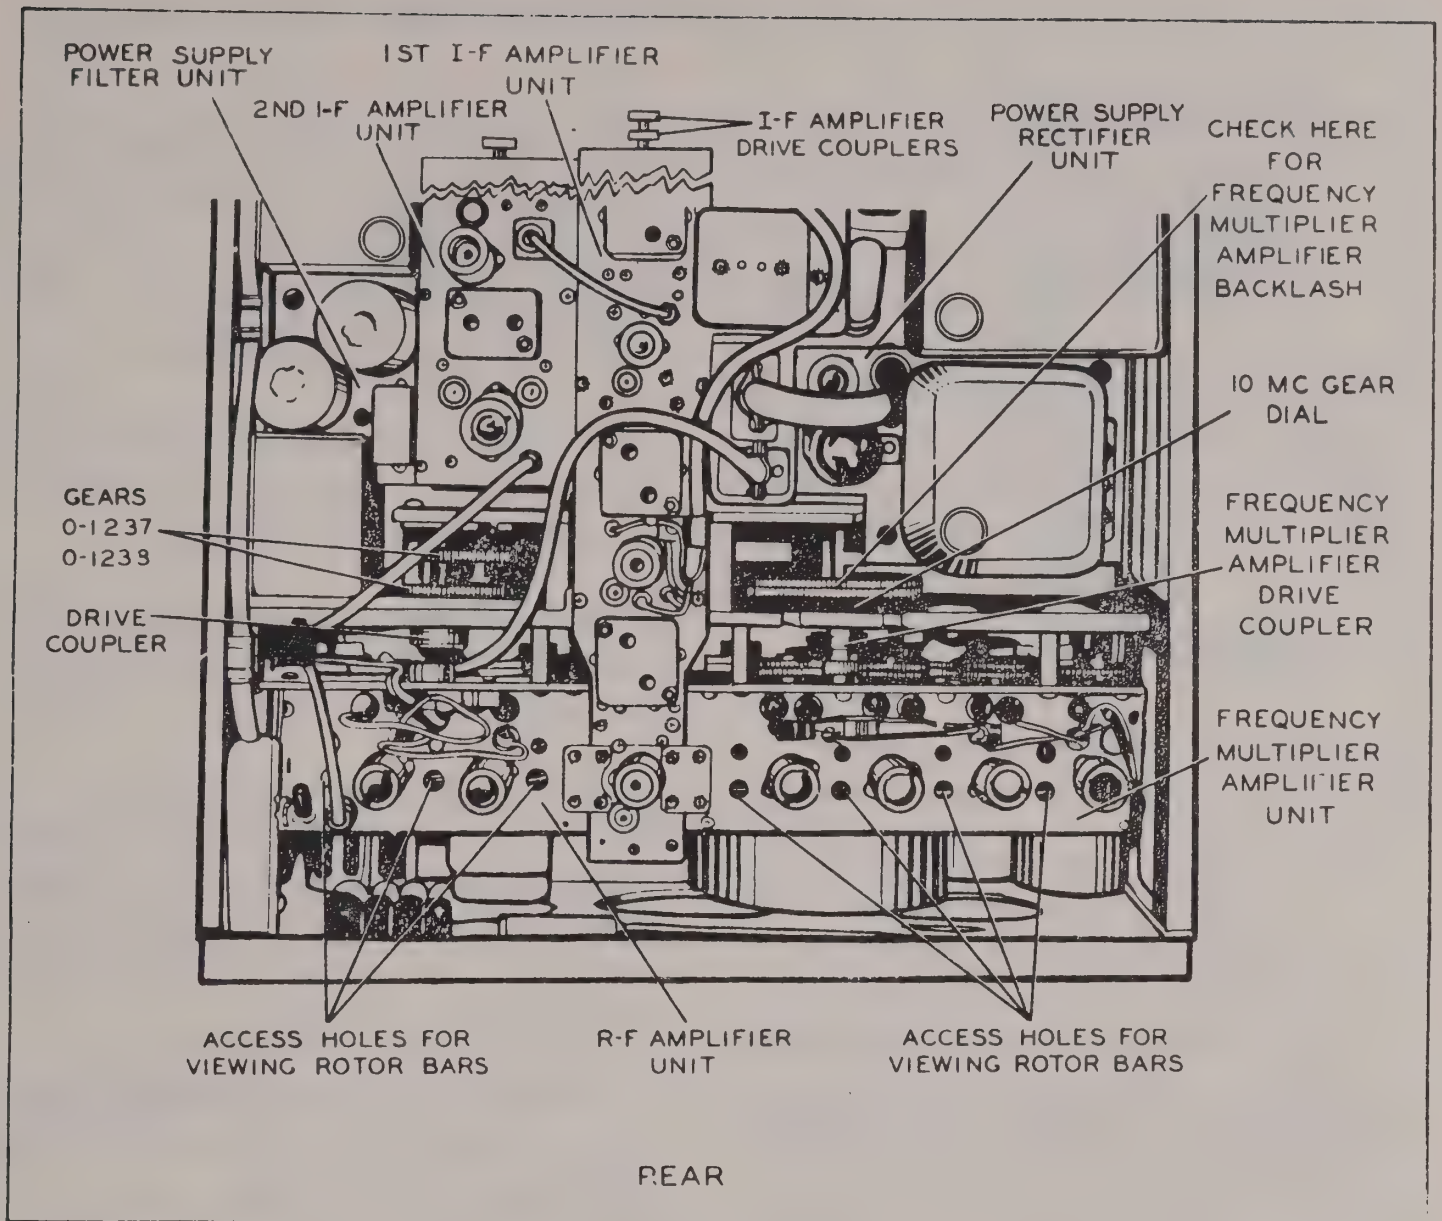
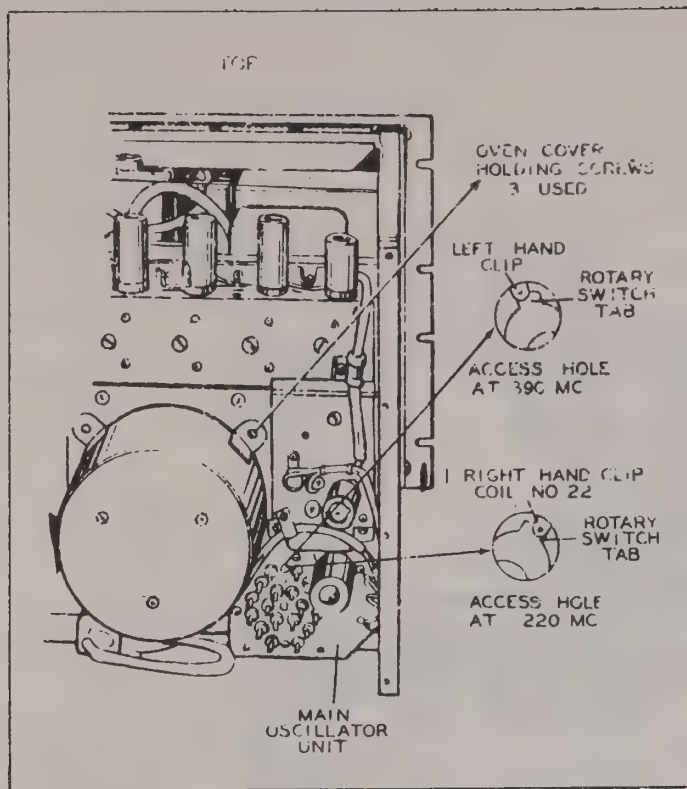

Figure 2-1 Radio Receiver R-278( )/GR, Partial Top View, Cover Removed.
Figure 2-2 Radio Receiver R-278
(1) Remove the receiver from the rack, place it on the work bench, and remove the dust cover.
(2) Pull the interlock plunger, on the receiver, to the full outward position.
(3) Connect an a-c power cable from the receiver to an a-c outlet.
(4) Set the POWER ON-OFF switch to the ON position.
(5) Rotate the CHANNEL SELECTOR switch on the receiver to MANUAL.
(6) Set the three numbered MANUAL CHANNEL switches on the receiver to 360.0 mc.
(7) Observe the position of the red dot on the coupler located ahead of the shaft which drives the R-F Amplifier Unit. See Figure 2-1. The red dot should be UP toward the top of the receiver. Step (9) will further check step (7).
(8) Set the three numbered MANUAL CHANNEL switches on the receiver to 390.0 mc.
(9) Observe the rotor bars through the access holes of all three R-F Amplifier tuners. The rotor bar in each of the tuners should be directly above the driven shaft as viewed from the top of the tuner. See Figure 2-1.
(10) Feel the gears on the shaft which drives the R-F Amplifier Unit for backlash. The gears are labeled 0-1237 and 0-1238 and are called out in Figure 2-1. Since the gear train is spring loaded, backlash movement should spring back to loading.
(11) Set the three numbered MANUAL CHANNEL switches on the receiver to 220.0 mc.
(12) Observe the rotary switch tab making contact with the right hand clip on the main Oscillator Unit. The rotary switch tab can be viewed through the hole shown in Figure 2-2.
(13) Remove the Phillips head screws from the rear plate of the receiver and remove the plate.
(14) Set the three numbered MANUAL CHANNEL switches on the receiver to 390.0 mc.
(15) Remove the three Phillips head screws holding the crystal oscillator oven cover. These screws are located at the open end of the oven cover. Do NOT remove the screws on top of this cover.
(16) Remove the crystal oven cover.
(23) The calibrated 10 MC GEAR DIAL in front of the Frequency Multiplier-Amplifier Unit should be indicating "39"
(24) Set the three numbered MANUAL CHANNEL switches on the receiver to 220.0 mc.
(25) Observe the position of the red dot on the coupler ahead of the shaft which drives the Frequency Multiplier-Amplifier Unit. The red dot should be UP toward the top of the receiver. See Figure 2-1.
(26) Observe the rotor bars through the access holes of all four Frequency Multiplier-Amplifier tuners. The rotor bars in each of these tuners should be directly beneath the driven shaft as viewed
from the top of the unit. See Figure 2-1.
(27) Feel the gears located directly forward of the 10 MC GEAR DIAL for any backlash. Since the gear train is spring loaded, backlash should spring back.
(28) Replace the schematic cover plate of the Frequency Multiplier-Amplifier Unit.
(29) Set the three numbered MANUAL CHANNEL switches to 399.9 mc.
(30) Locate two couplers on the First I-F Amplifier Unit and one coupler on the Second I-F Unit. Note that the red dots point UP toward the top of the receiver. See Figure 2-1.
(31) Set the three numbered MANUAL CHANNEL switches on the receiver to 390.0 mc.
(32) The calibrated dial gear, located forward of the First I-F Amplifier Unit, should read "0" as viewed from the top.
(33) Replace the rear panel, and secure the equipment.